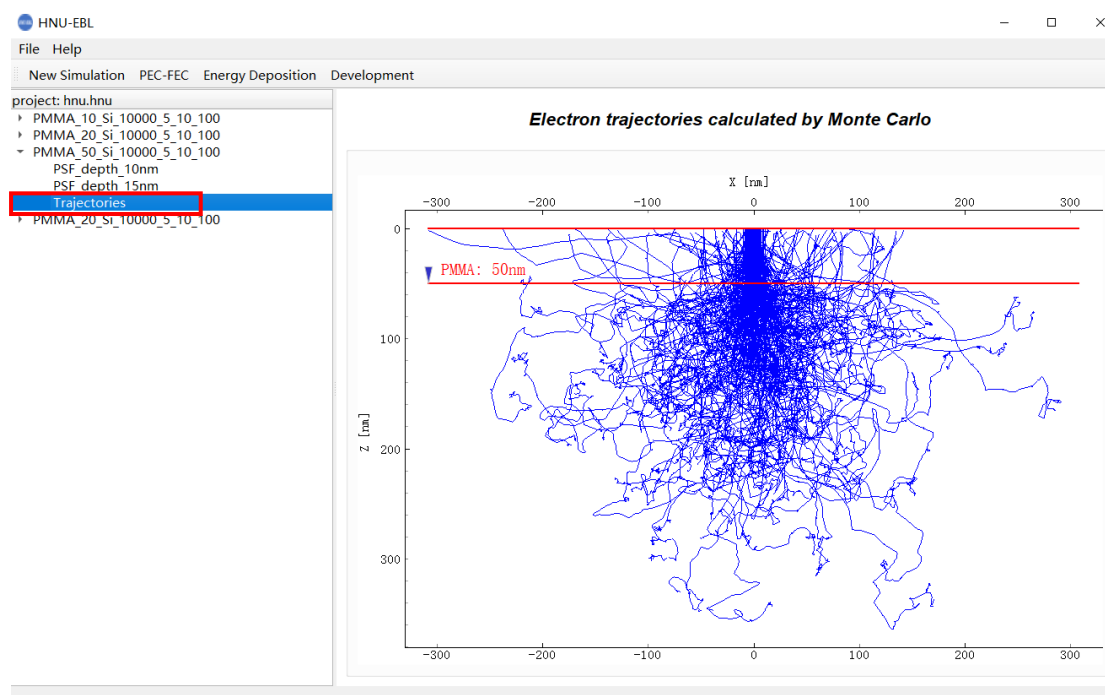

Figure 2.5.1 Electron beam scattering fitting interface
(1) You can click the triangle symbol on the left of the corresponding MC simulation result to display the MC simulation result.
(2) You can click “Trajectories” to display the electron beam scattering simulation results (Figure 2.5.1). For the convenience of observation, the red marking lines are the layer names and thicknesses of all layers except the substrate in the corresponding MC simulation.